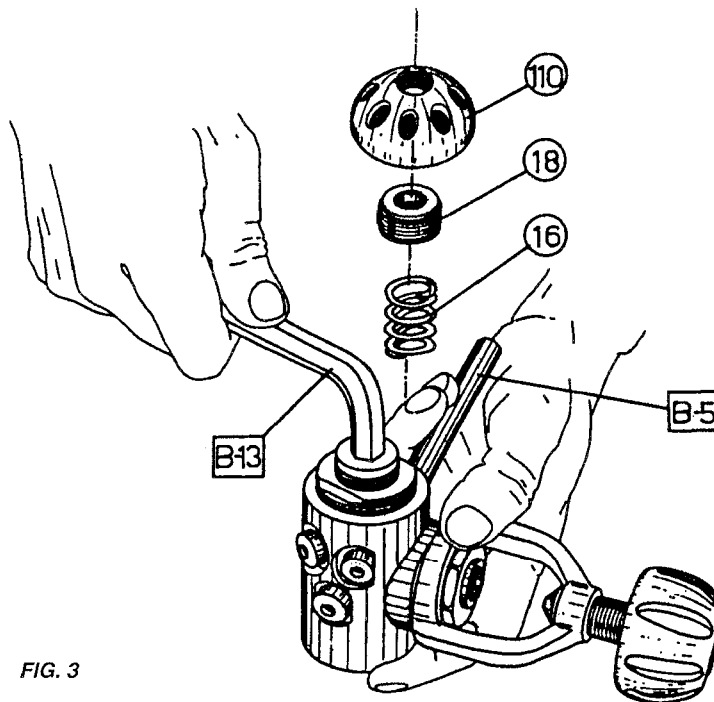

FIG. 3
7. Remove the poppet seat (75) from the first stage and remove the O-ring (74).
9. Remove the protection cap (110).
10. Using the Allen wrench (B-13), unscrew the adjusting nut (18) and pull out the spring (16). (Fig. 3)